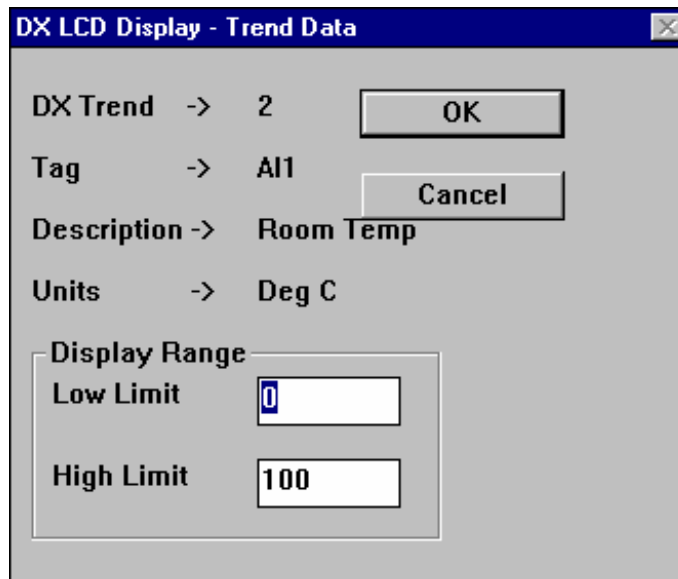

Figure 15-3: Analog Trend Data Dialog Box
The DX LCD Display Analog Trend Data dialog box shows the DX Trend number, Tag name, Description, and Units as static text (Figure 15-3). You cannot change these values using the dialog box. The Data Range is -32768 to $+32768$.
2. Right-click on the row that contains the point that you want to edit and select Data from the pop-up menu that appears. A DX LCD Display Digital Trend Data dialog box or an Analog Trend Data dialog box appears depending on the point you selected (Figure 15-2 or Figure 15-3).